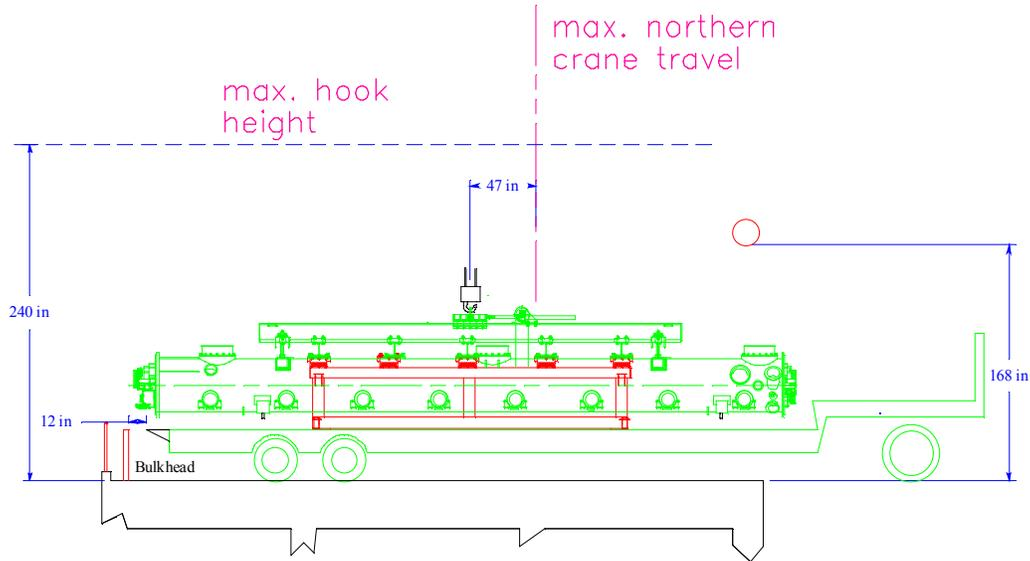

Figure 5. Final position within NML highbay.
- Carefully back into NML highbay and stop per Figure 5 (a bulkhead exists to prevent the trailer from moving too far)